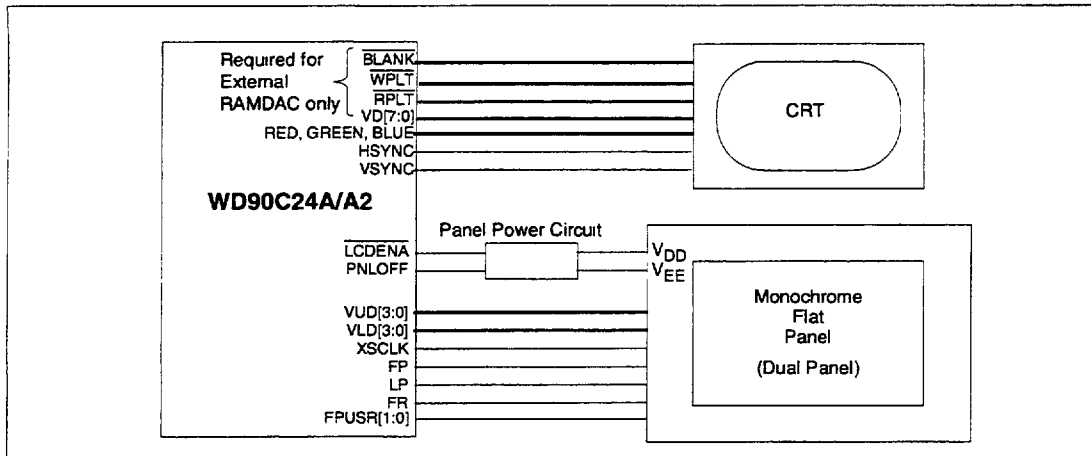

FIGURE 26-1. SIMULTANEOUS CRT AND MONOCHROME LCD PANEL INTERFACE
- Simultaneous CRT and Monochrome LCD Panel Interface (Figure 26-1)